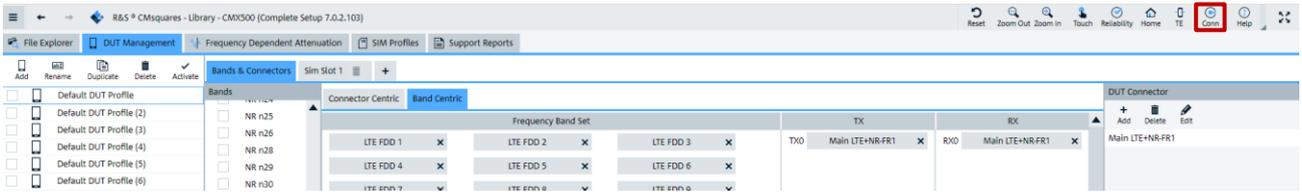

Figure 36 Access to DUT Management in CMXsquares
1. Pressing icon  on the global toolbar enters DUT management area in CMSquares (see Figure 36).